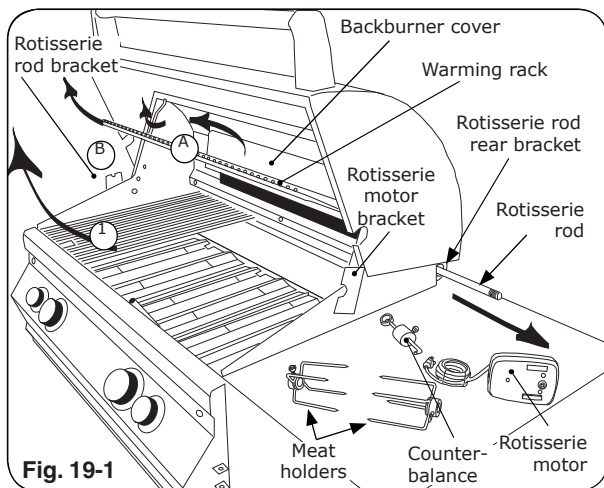
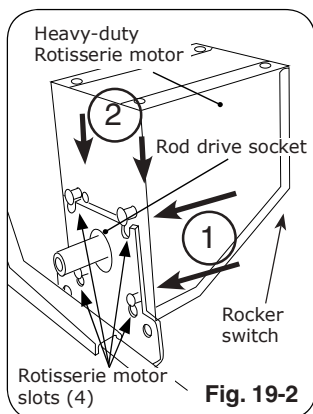
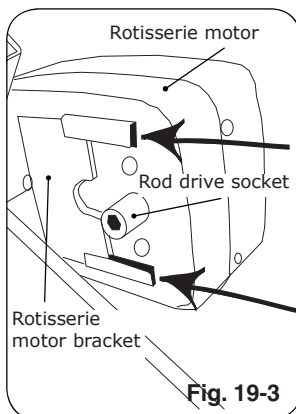

Fig. 19-1
Fig. 19-2
Fig. 19-3
2. Slide rotisserie motor fully onto motor bracket (right side, Fig. 19-2 or Fig. 19-3, and Fig. 19-1).
3. Remove rotisserie rod from rear bracket (Fig. 19-1).